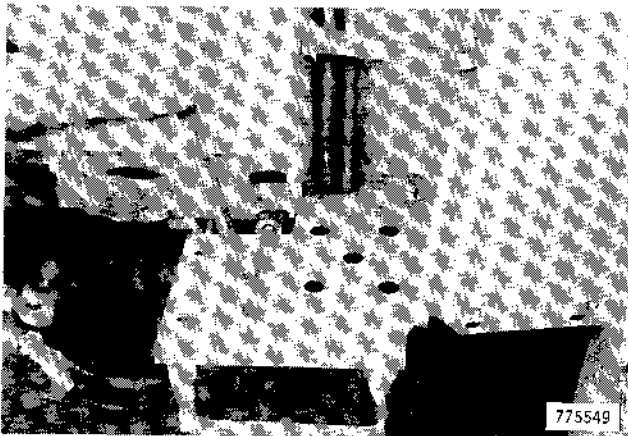

Figure 24
- 29. Remove the bolts and cap screws from the step. Pry the step back to disengage the dowel pin at the front of the step. Lower the step down out of the way. Remove the cap screws from the loader upright, Figure 24.